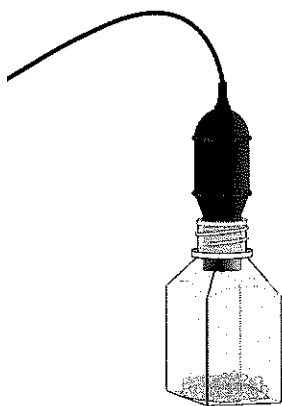

Figure 1
- e. Place the O₂ Gas Sensor into the bottle as shown in Figure 1. Gently push the sensor down into the bottle until it stops. The sensor is designed to seal the bottle without the need for unnecessary force.